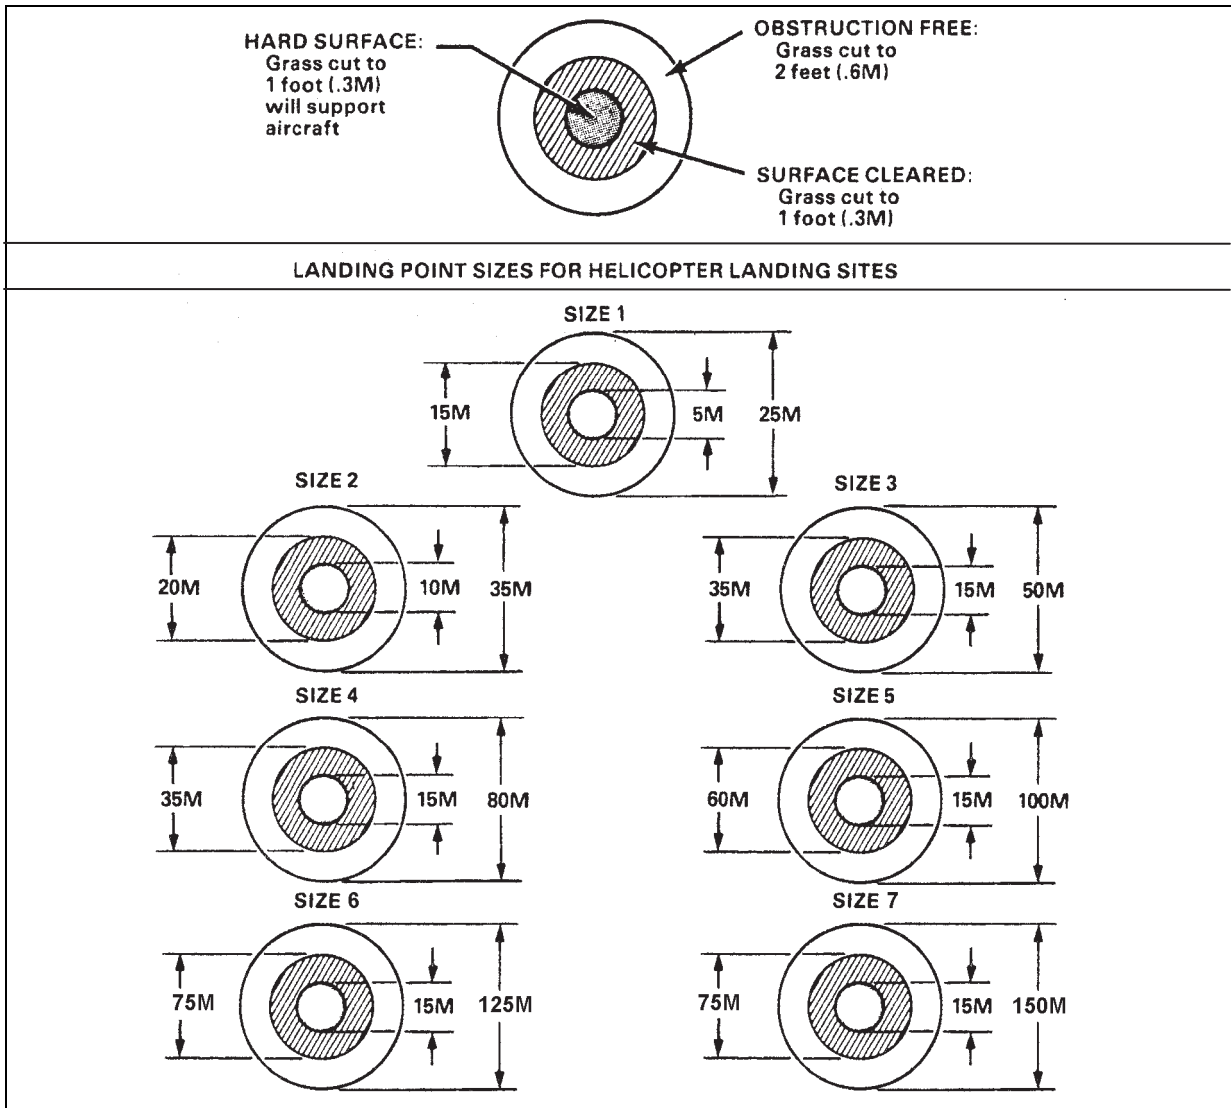

Figure 4-2. Required Landing Point Characteristics
4-4. Each landing point must be level and firm enough to keep a fully loaded aircraft's landing gear from sinking into the ground. The ground is firm enough for size 1 and 2 helicopters if it can support a 1 1/4-ton truck. If the ground can support a 5-ton truck, size 3 through 5 helicopters can land without risk of sinking. The entire landing point must be cleared of any loose material or debris to prevent it from being blown into the ground crew or rotor blades, or drawn into the helicopter engines. Figure 4-2 shows the three different areas and conditions for each size landing point.
- Night Operations.** During night operations, as the pilot gets closer to the landing point, he needs a wider area for a safe approach than just the 16-degree sector. Therefore, the minimum width of the approach and exit path, illustrated by the darker shaded area, must be equal to or wider than the width of the landing point that must be cleared to a maximum height of 2 feet (figure 4-2). The length of the minimum width area, dimension X, will vary depending on the size of the landing point, (table 4-2). Follow along as we use a UH-60 Blackhawk as an example to help clarify the night approach and exit path criteria. Table 4-1 identifies the UH-60 Blackhawk as a size 3 helicopter. Next we must determine the landing point area that must be free from obstructions and grass cut to maximum height of 2 feet. Figure 4-2 indicates 50 meters as that area for a size 3 landing point. Therefore, the minimum width of the night approach and exit path is 50 meters. The minimum width distance intersects the 16-degree V-shaped arc (night approach and exit path) 180 meters from the center of the landing point. In other words, the night maximum obstruction angle applies to the complete approach and exit path; both the rectangular-shaped wedge (dark shaded area of the diagram) as well as the 16-degree V-shaped arc (light shaded area and dotted line).